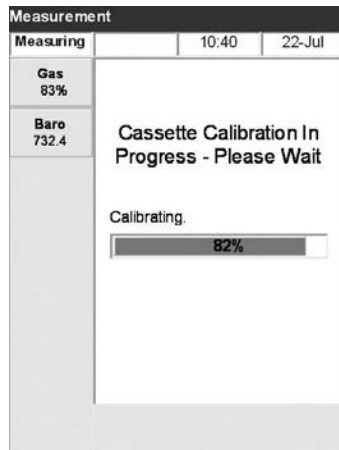

Fig. 5-7 Cassette Calibration
- The system will now check the integrity of the cassette and then calibrate (Fig. 5-7). For more information about calibration, please refer to Chapter 4 “Calibration and Quality Control”.